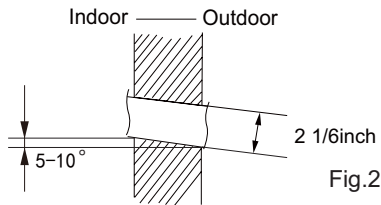

Fig.2
(2) Open a piping hole with the diameter of 2 1/6inch on the selected outlet pipe position. In order to drain smoothly, slant the piping hole on the wall slightly downward to the outdoor side with the gradient of 5-10°.(As show in Fig.2)